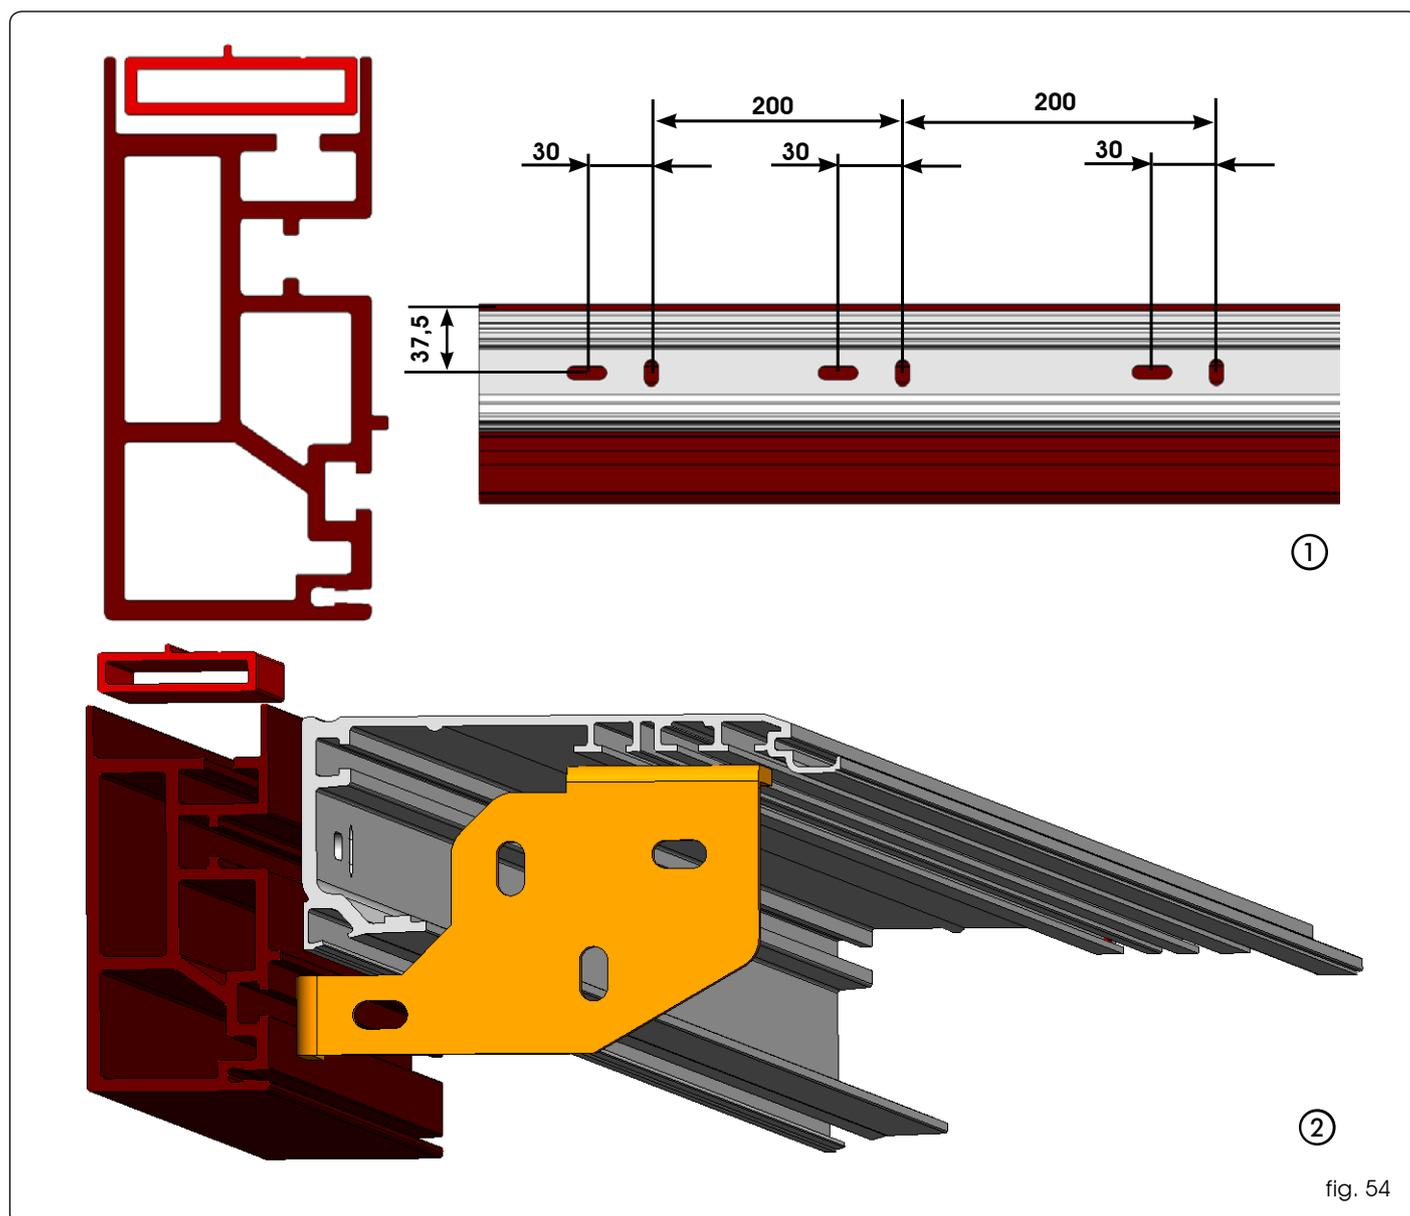

fig. 54
• Drill a series of holes on the free-standing profile in the position indicated in fig.54 at a distance of approx. 200mm between each other.
• Determine the exact position of the free-standing profile taking into consideration the overall dimensions of fig. 54 ①.
Secure centrally by lifting the cross beam with strength in order to align the three fastening points fig.54.
The cross beam of the automated system with the free-standing profile can be secured to both ends by using the side brackets accessory, fig. 54.
• Determine the exact position of the cross beam taking into consideration the overall dimensions indicated in fig. 54.
According to the cross beam length, intermediate fastening operations can be required and executed by means of the guide shown in fig.54.
- 3) Drill the necessary holes on the free-standing profile in the position shown in fig.54 ①.